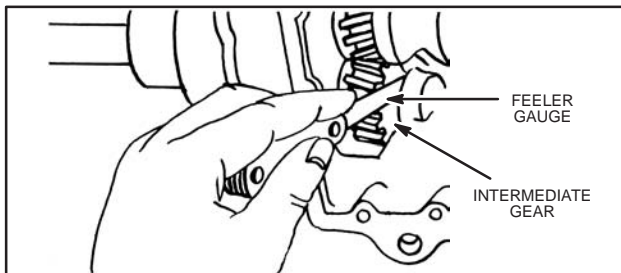

Fig. 122
- Check end play of intermediate gear by inserting feeler gauge as shown in Fig. 122. End play should be .002"-.008". Note amount of end play.